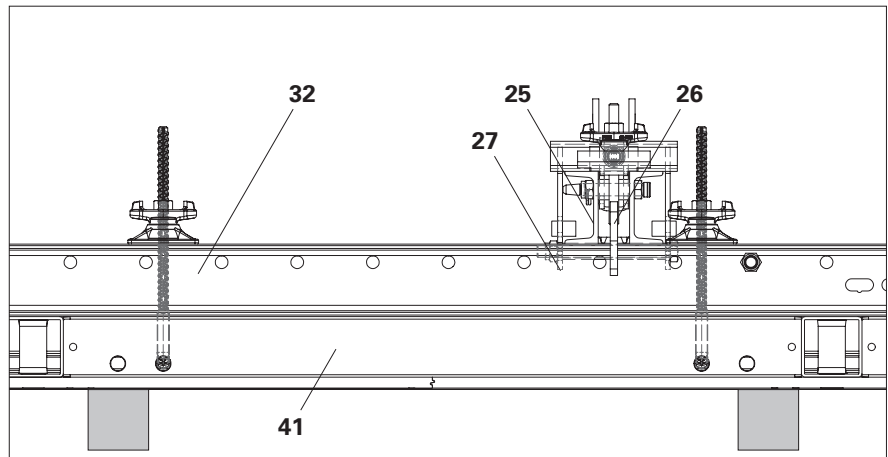

Fig. C1.01b
2. Place the Strongback SRU (25) on the walers (32) according to the plan.
3. Clamp the strongback to the upper waler (32) with Waler Fixation SRU (26). (Fig. C1.01b + C1.01c)
5. If Crossbeam Head RCS/VARIO is used: Fit the strongback adapter (35) onto the strongback with filler pin Ø 21 (15) and cotter pin 4/1 (16).